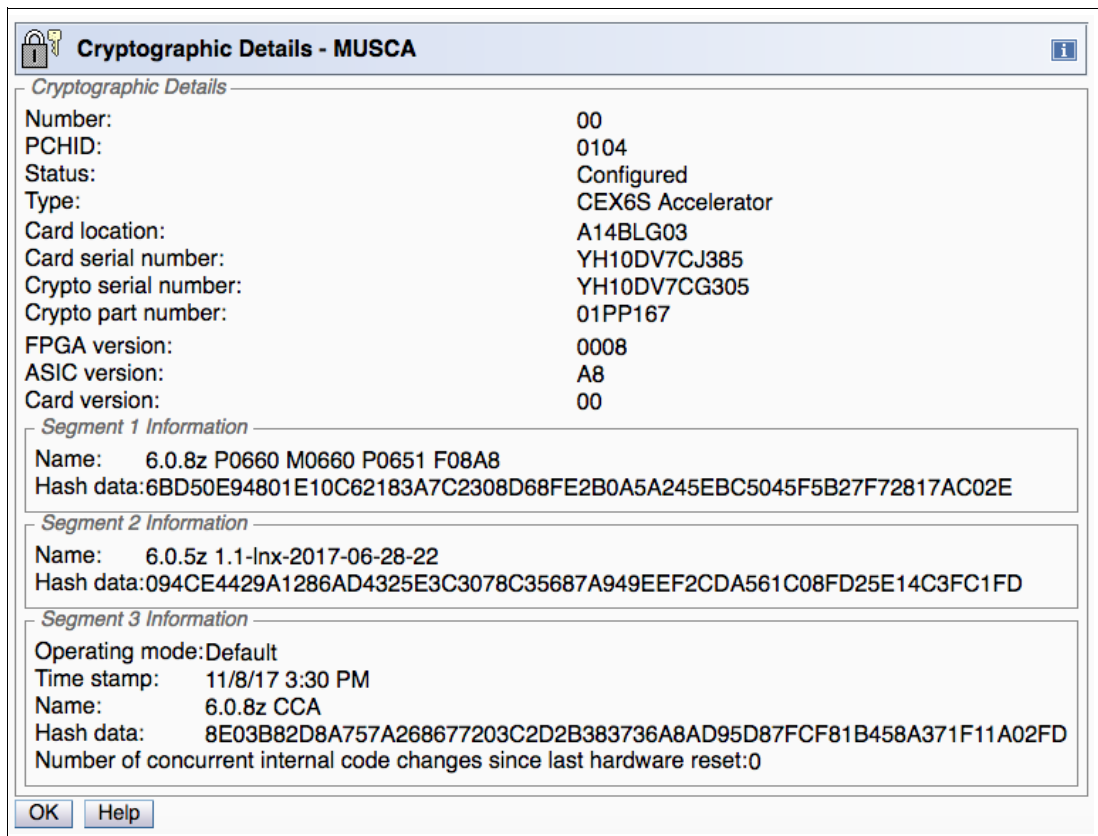

Figure 10-15 Cryptographic Details (Accelerator)
8. Click **View Details** for detailed information (see Figure 10-15).